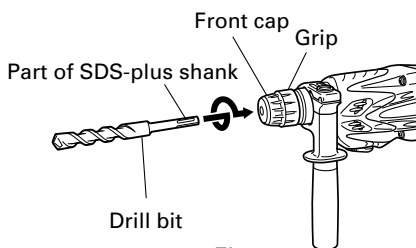
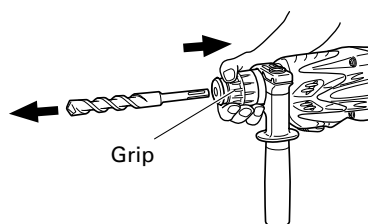

Fig. 2
Fig. 3
6. Mounting the drill bit (Fig. 2)
- (1) Clean the shank portion of the drill bit.
- (2) Insert the drill bit in a twisting manner into the tool holder until it latches itself (Fig. 2).
- (3) Check the latching by pulling on the drill bit.
- (4) To remove the drill bit, fully pull the grip in the direction of the arrow and pull out the drill bit (Fig. 3).